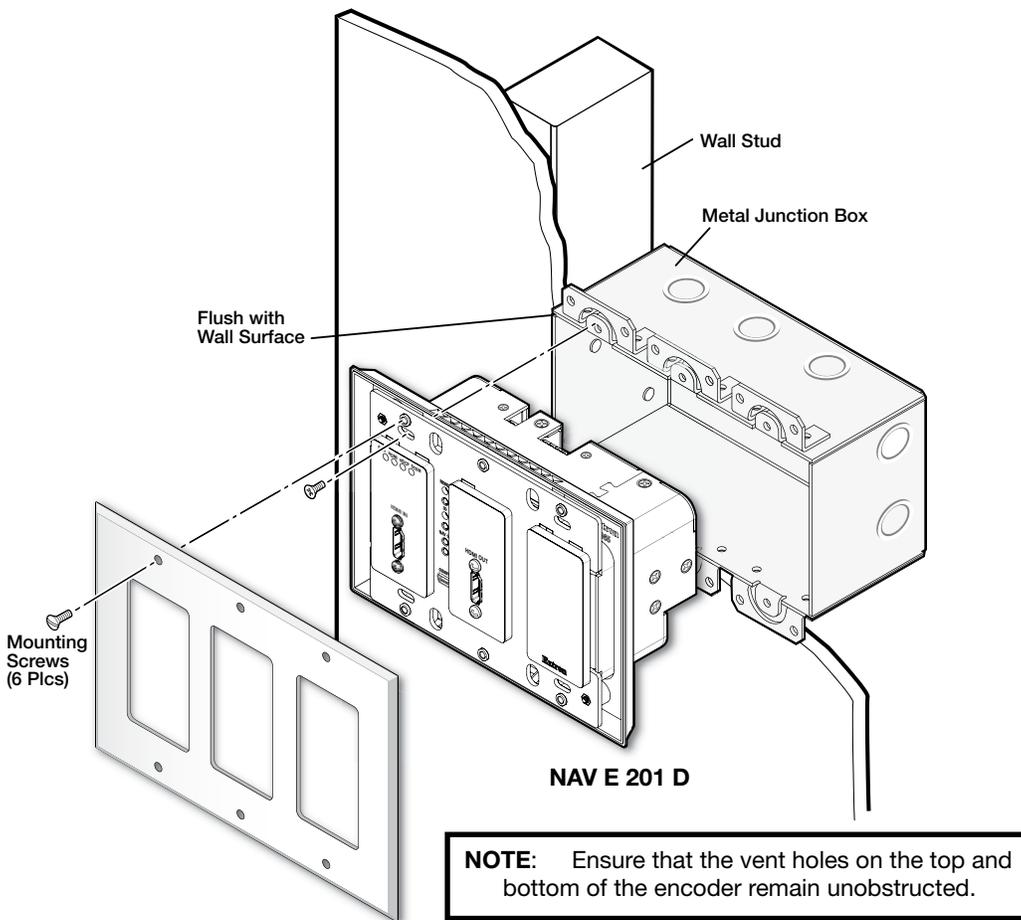

Figure 4. Installing the Encoder in a Junction Box
2. Secure the encoder to the junction box, wall or surface mounting box, or mud ring as follows (see **figure 4** on page 4):
3. Attach the wallplate to the encoder: insert the six included screws through the circular holes in the wallplate and the tabs on the encoder (see **figure 4**). Tighten the screws using a flat bladed screwdriver until snug.